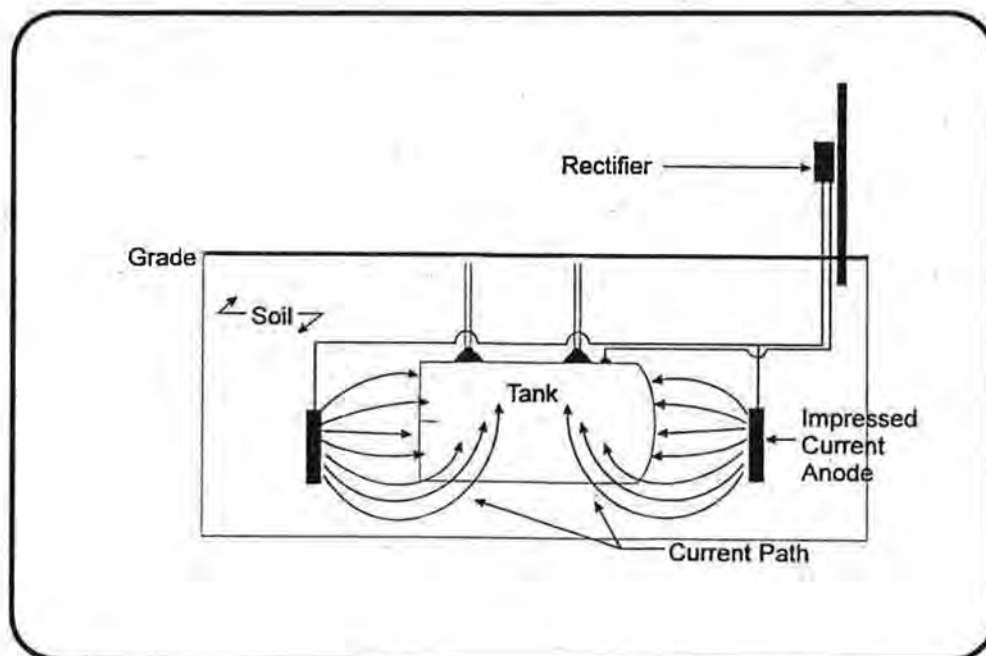

Figure 2
- **Impressed current** (Figure 2) is a corrosion protection system that introduces an electric current through a rectifier into the ground through a series of anodes that are not attached to the underground storage tank (UST). This current is sent through an insulated wire to the anodes, then flows through the soil to the underground tank system, and returns to the rectifier through an insulated wire attached to the UST. The UST system is protected because the current going to the UST system overcomes the corrosion-causing current normally flowing away from it.